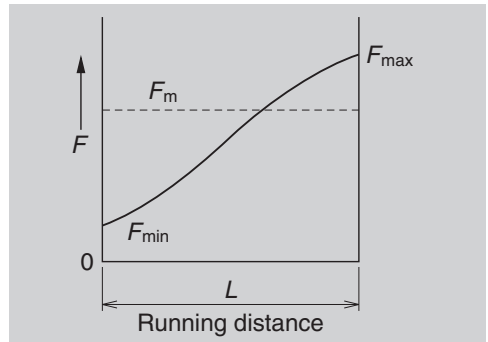

Fig. 2.4 Linear load change
② When load changes almost linearly (Fig. 2.4)